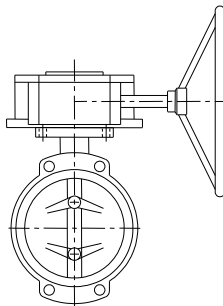

Figure 6: left handed gearbox perpendicular to the valve
8. Mount the gearbox perpendicular to the valve (see figure 6)